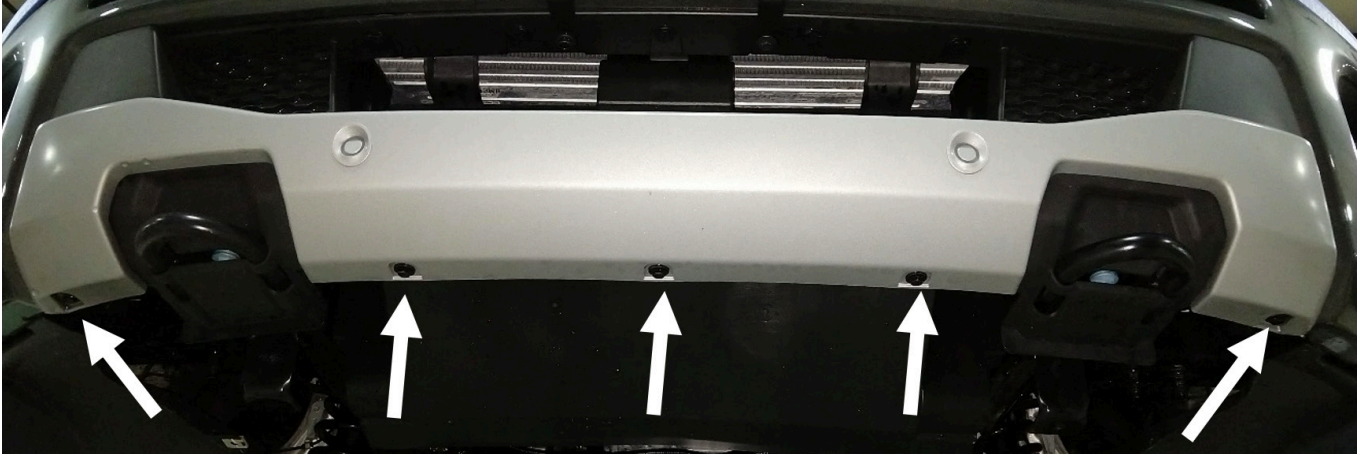

Figure 1
1. Using a 10mm Socket wrench, remove the five (5) screws from the bottom of the center plastic trim piece. Figure 1.